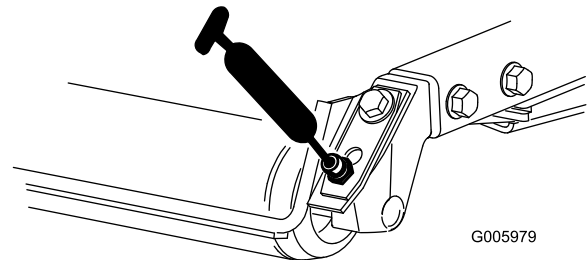

Figure 32
- Rear roller bearings (2 per cutting unit) (Figure 32)